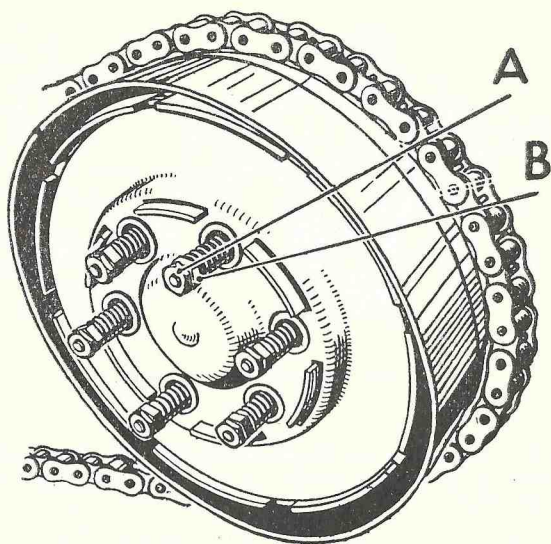

Fig. 13. Clutch Spring Pressure.
When new the clutch springs are adjusted so that approximately one thread of the stud is showing above the locknut (A), Fig. 13. After considerable use it may be necessary to increase the spring pressure a little. In this case slacken the locknuts (A) and tighten down the nuts (B) by a few turns. Withdraw the clutch to ensure that it frees properly and that the end plate does not tilt. If the plate does tilt the clutch will not free properly and the springs should therefore be re-adjusted until the plate remains square when the clutch is withdrawn, then tighten the locknuts.